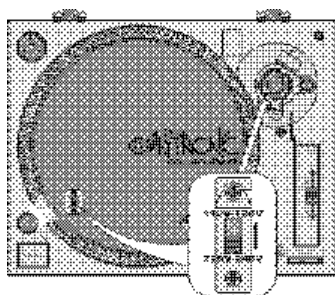

Fig. 7: Voltage selection
- 3 Connect the mains plug to a socket (230 V AC, 50 Hz ~). The unit can also be operated with 115 V AC, 60 Hz ~. For this purpose, set the voltage selector switch underneath the platter to the upper position 110-120 V (Fig. 7).